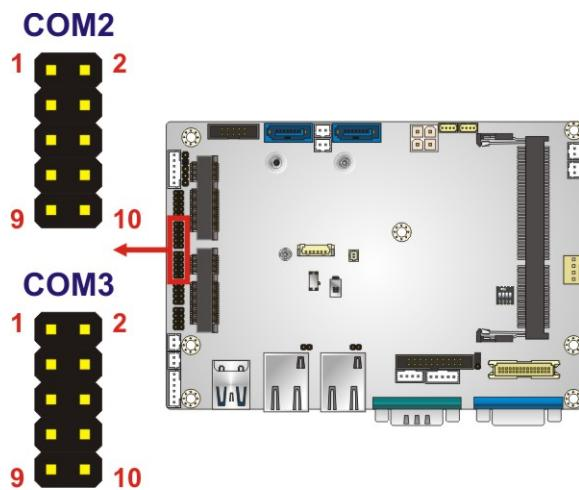

Figure 3-21: RS-232 Serial Port Connector Locations
**CN Location:** See Figure 3-21